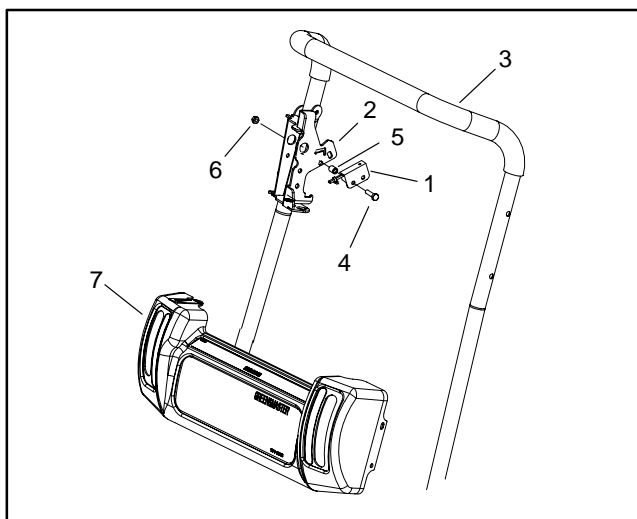

Figure 7
2. Remove fasteners and spacers that mount switch to control bracket on handle (Fig. 7). Remove switch from bracket.
1. Position switch to control bracket with fasteners and spacers (Fig. 7).